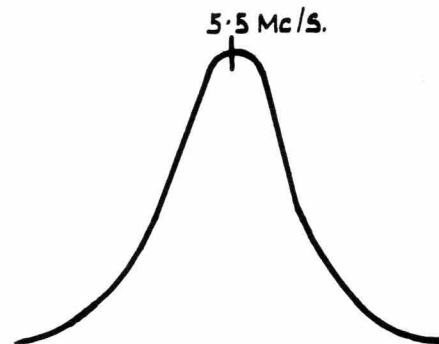

Fig. 12
4. Connect the sweep generator to the grid (pin 2) of the 4th IF Amplifier tube (V9) and the oscilloscope to observe the response at test point TP3. With the generator set to give a sweep width of approx. 1 megacycle per second, the ideal response curve is shown in Fig. 12, and shows symmetry about the 5.5 Mc/s. marker.